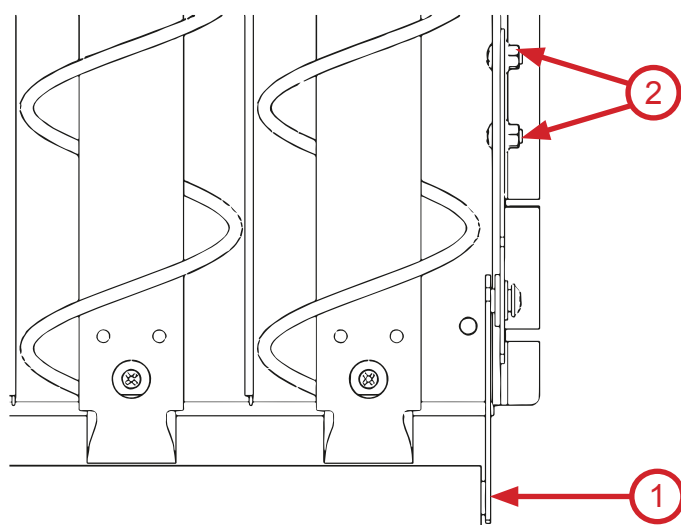

Fig.46 - Installation of spacer
- Insert the spacer (1) installing it in the groove (2), aligning the guide's hole (3) with the spacer's axis;
- Fix the guide using self-tapping screw (4), which came with the guide.
For high bottles or cans there are additional mechanisms to protect against chance tipping over and product jamming, which is closer to the front window – bottle spacer (5) with a set of fixtures (see figure 46).